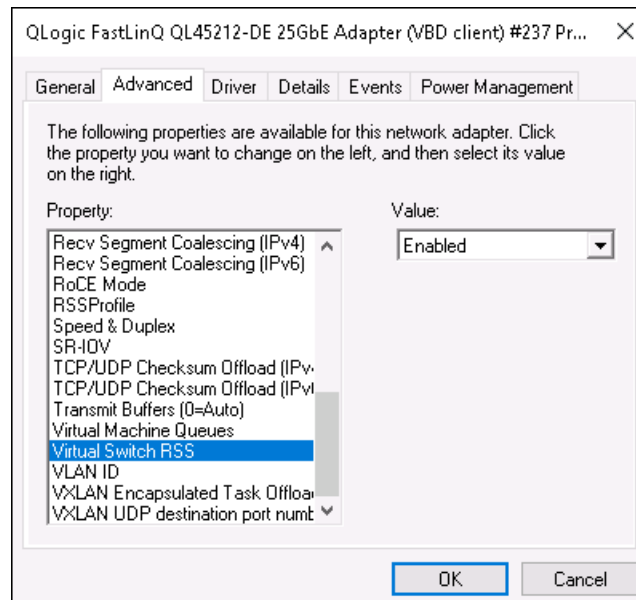

Figure 9-13. Advanced Properties: Enabling Virtual Switch RSS
2. On the Advanced Properties page (Figure 9-13) under **Property**, select **Virtual Switch RSS**, and then set the value to **Enabled**.